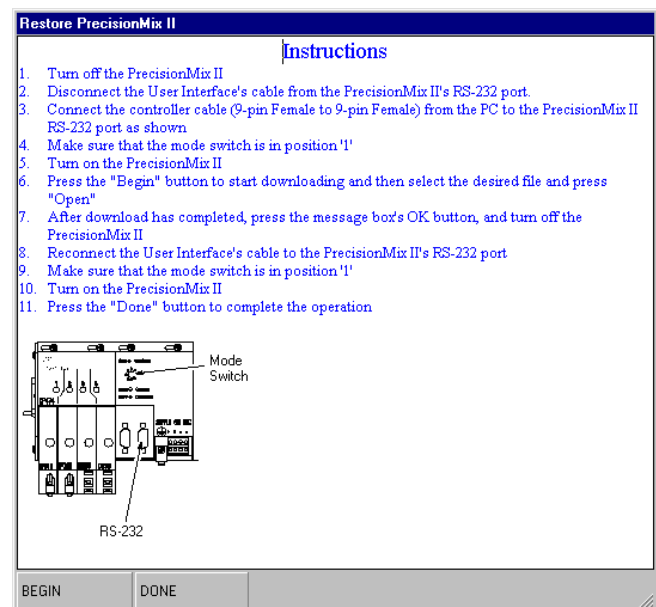

Fig. 13.18
10. Press the DONE button to close the Instructions window. See Fig. 13.18.